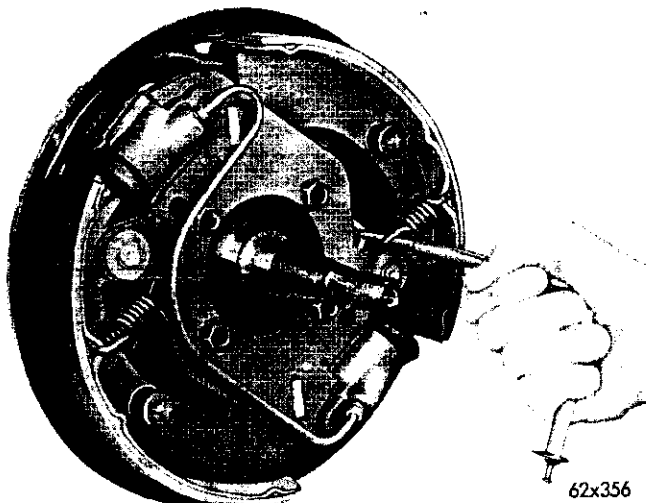

Fig. 13—Installing the Brake Shoe Return Spring
(1) Slide the brake shoes into position between the support plates. Be sure the ends of the cylinder push rods engage the toe end of the shoes properly.
(2) Insert brake shoe return springs in the link of the support plate.
(3) Use tool C-3462, as shown in Figure 13, to attach the return springs to the loop of the brake shoe table.
(3) Use Tool C-3462, as shown in Figure 13, to attach the springs to the loop of the shoe table.
(3) Lubricate the adjusting cams of the support plate assembly lightly with stick lubriplate, then slide brake shoes into position between the support plates.
(4) Install the brake shoe return springs through the link of the support plate and use Tool C-3462 to attach the spring to the brake shoe, as shown in Figure 13.
(5) Install the brake shoe guide rod, spring and retainers.
(6) Install the wheel cylinder connecting tube, being careful not to bend or distort the tube.
(7) Turn the brake adjusting cams to the fully released position. Attach the brake hose to the frame bracket. Connect the brake tube.
(8) Install the drum and wheel assembly. Adjust the front wheel bearing, as described in "Front Suspension", Group 2.
(9) Bleed and adjust the brakes.